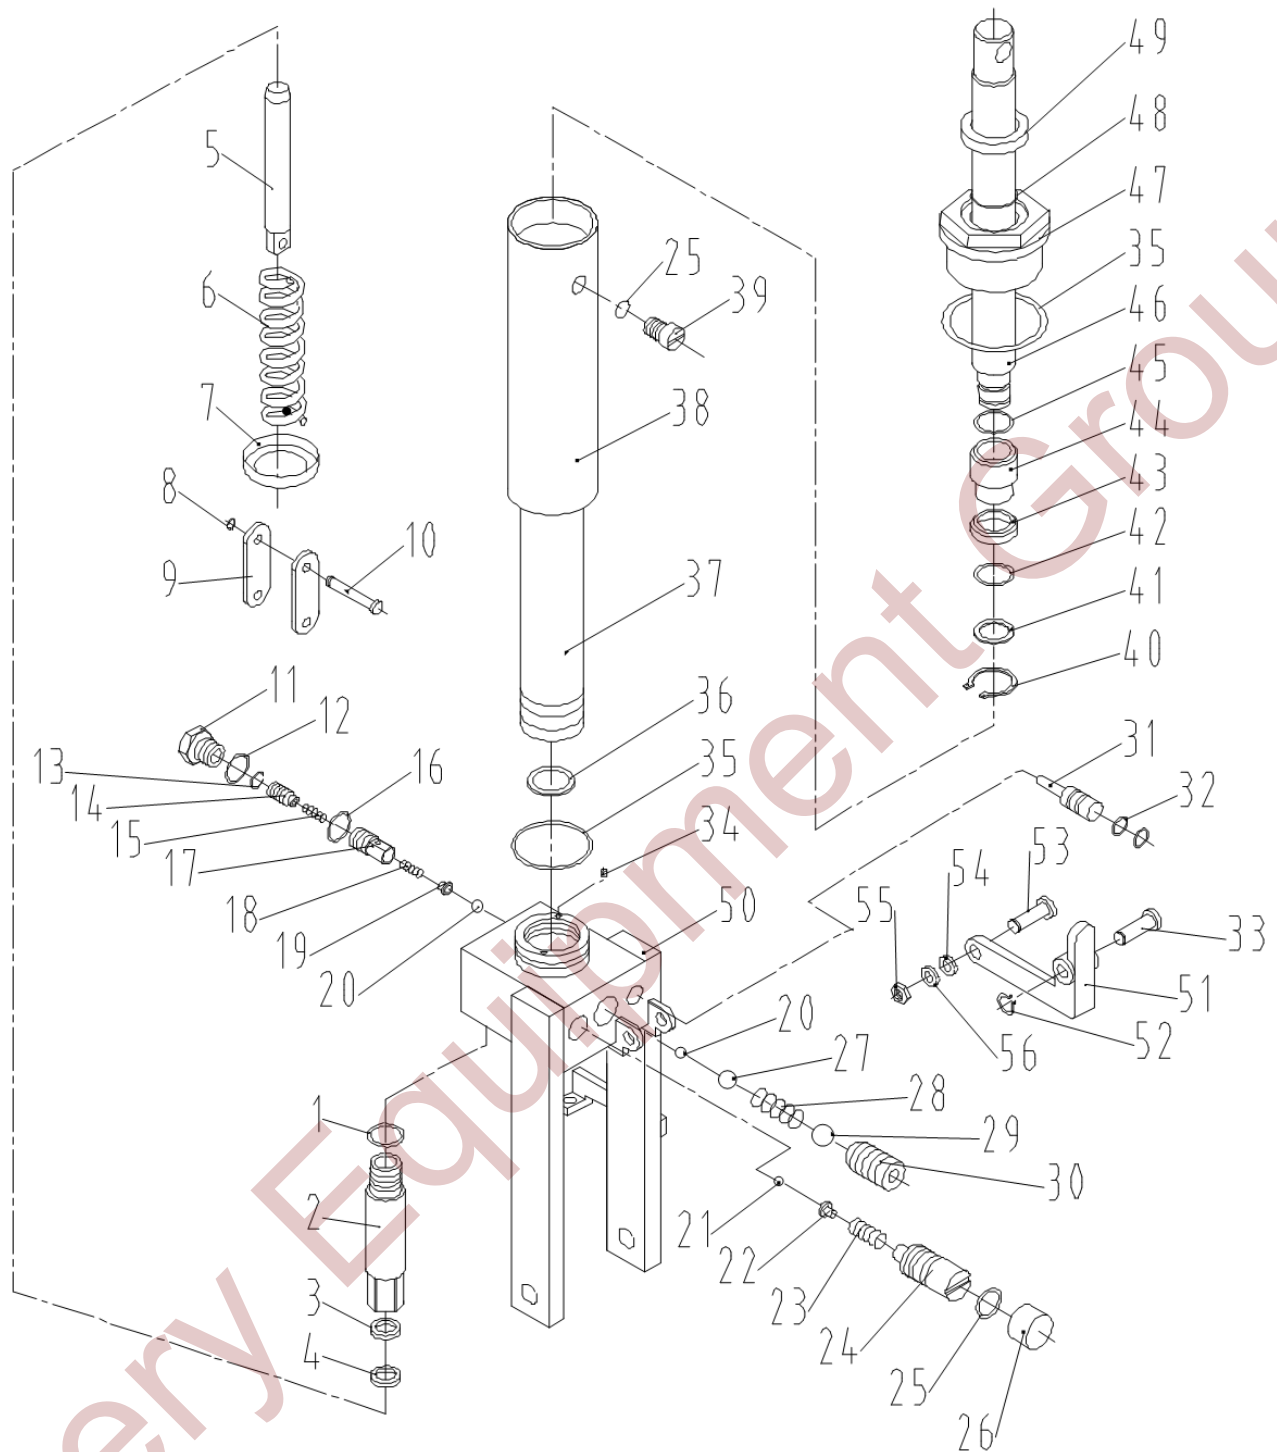

Figure 1
Screw out the 11# sealing screw in the pump (see figure 1 in the appendix ) with a wrench; Pull the knob up; Unscrew the oil plug screw 39 # and add hydraulic oil;
8. Materials of the sealing parts 1#,3#,4#,16#,25#,26#,32#,35#,36#,42#,43#,45#,48#,49# of the pump (see figure 1 in the appendix ) is rubber, PU, whose maintenance interval is 2-year. Replace the sealings in time to avoid possible damage and poor performance of the truck.